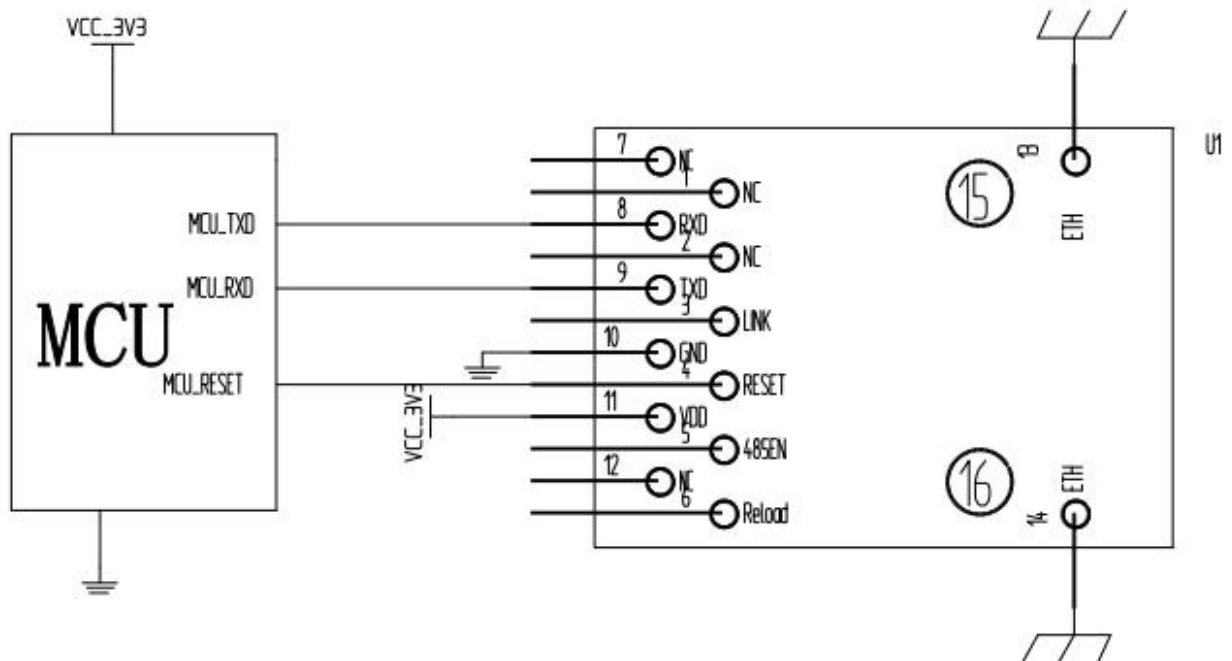

Figure5 USR-K5 Hardware connection
5.1. Hardware connections are typically applied, as shown in figure 5